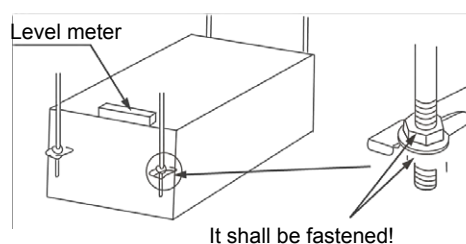

Figure 3.7
- 3) Confirm the levelness of the main body by the level meter (strictly prohibit the declination toward the non-drain side. It had better decline toward the drain side). Refer to Figure 3.7.